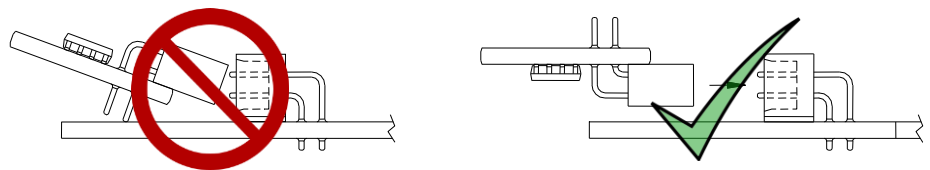

Figure 2-1. License Key Installation
5. Place the license key in the appropriate terminal slot (**P4** or **P6**) in the CPU (refer to *Figure 2-1*).
6. Press the license key into the terminal until it is firmly seated (refer to *Figure 2-1*).